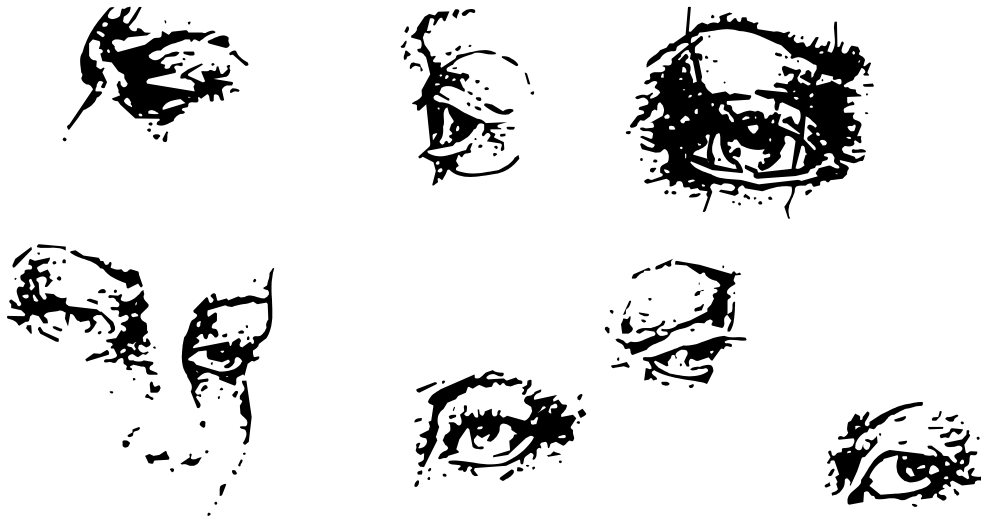

Figure K-13. The eye.
b. One of the most expressive features of the face, the eye has two lids that curve like short visors over the eyeball. The upper lid curves wider across the circumference of the eyeball, while the lower lid turns on a shorter arc around the base of the eyeball. Both lids have lashes. The inner and outer corners of the eyelids are completely different in design. At the outer corner, the upper lid overhangs the lower lid. At the inner corner, the lids do not touch when the eye is open, but are separated by a narrow area of pinkish membrane. (See Figure K-13.)